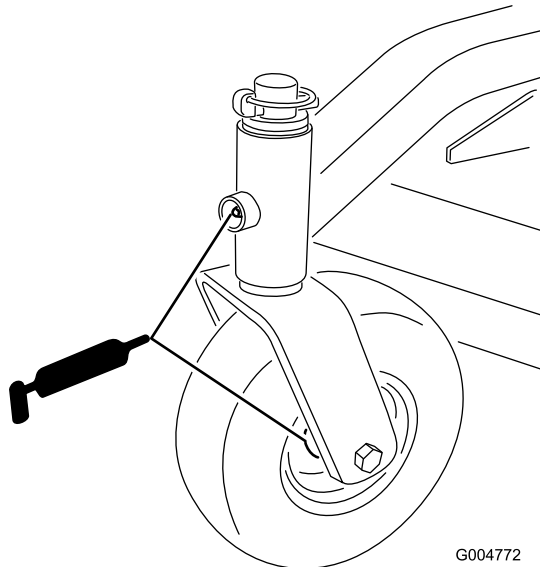

Figure 28
- Castor spindle (Figure 28)
- Castor wheel (Figure 28)